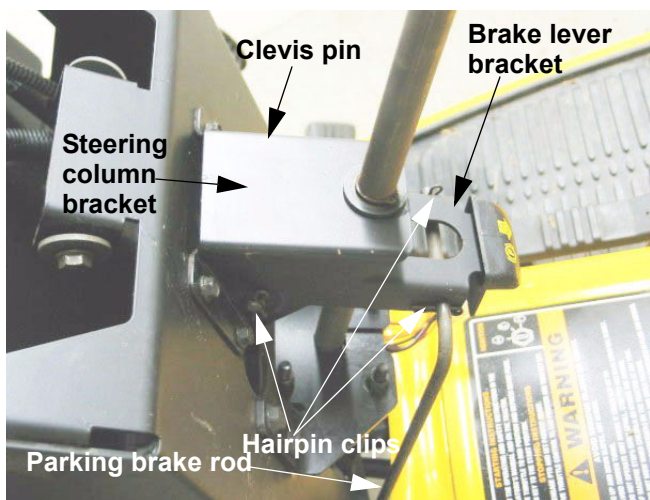

Figure 4.3
- 4.3. Remove the hairpin clips that secure the parking brake rod to the brake lever bracket. See Figure 4.3.